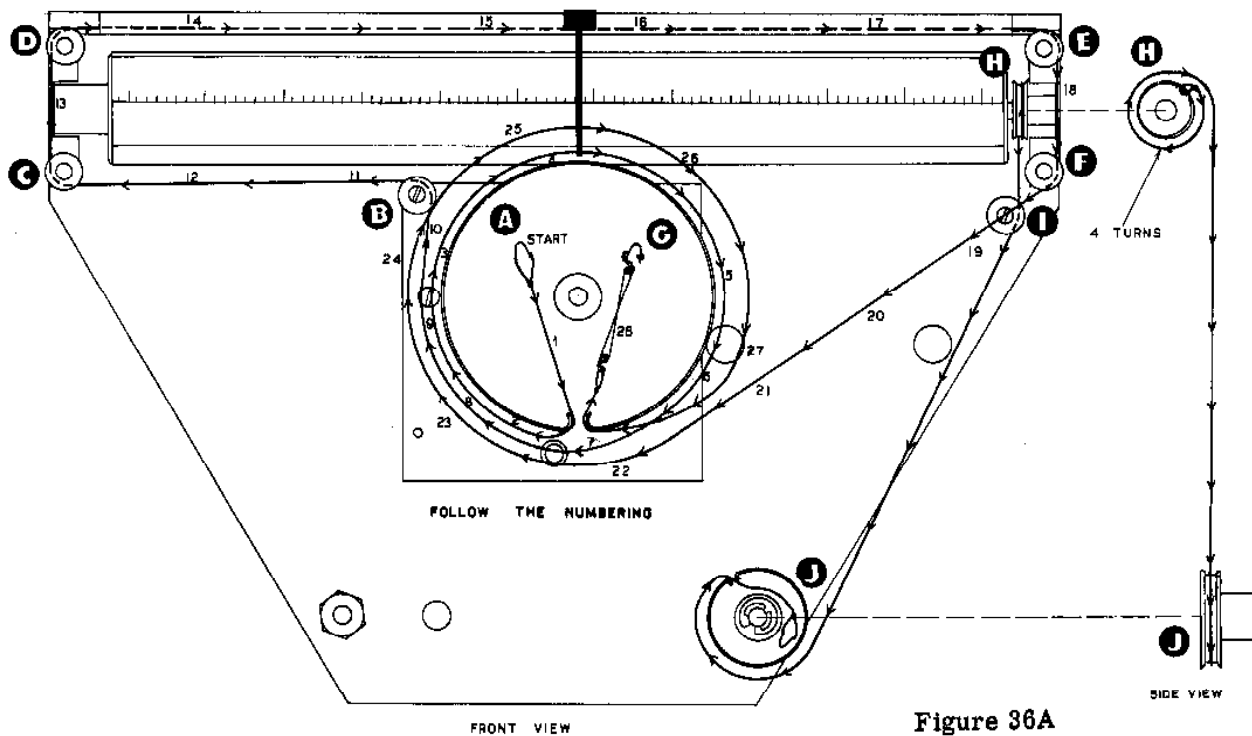
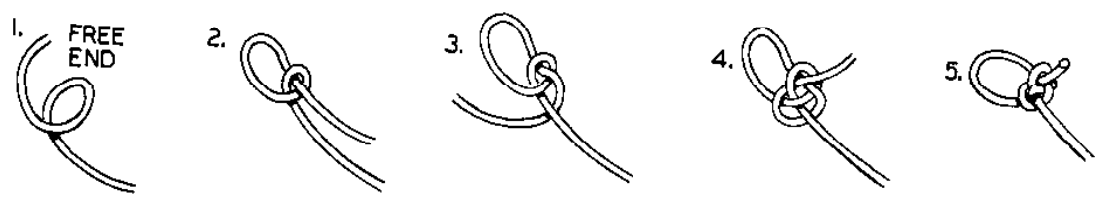

Figure 36A
Figure 36B
- (✓) String the pointer drive dial cord, as follows, referring to Figure 36A: Rotate the tuning shaft full CW. Using the full length of dial cord supplied, make a small secure loop (See Figure 36B) in one end and place over hook 1 on the drive pulley. Now, pass the cord through the opening on the rim of the pulley; make one complete CW turn on the pulley, and pass up and over the small plastic pulley on the front plate. Then route the cord to the left
- (X) Place the loop just formed over the hook on the band switch pulley and route the cord out through the gap in the pulley rim as shown in Figure 36A. Now rotate the pulley, which should still be free on the shaft, in a CW direction until, with the band switch in the 20 M position, the 20 M scale on the dial drum is foremost. Now tighten the pulley set screw temporarily after positioning the pulley on the band switch shaft so it is clear of the links and the cord runs parallel to the dial mechanism back plate. NOTE: If access to the set screw on the pulley is difficult, place the band switch in some other position and set the pulley so the proper scale is foremost.
- (X) Make a final check of the band switch by rotating through its entire travel, noting that the various band dial calibrations appear foremost on the dial drum for the corresponding band switch position.